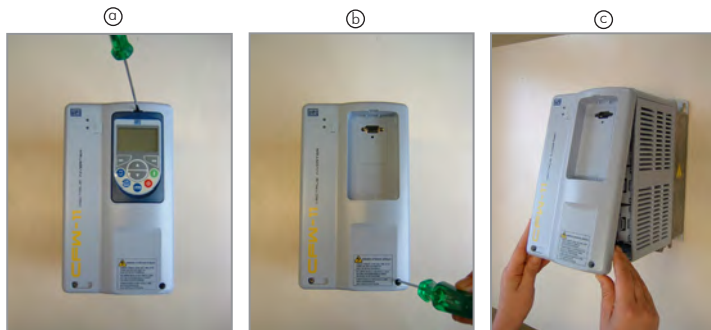

Figure 2 - Removal of the front cover
Step 1: While the drive is powered off, remove the front cover of the CFW-11 (figure 2);